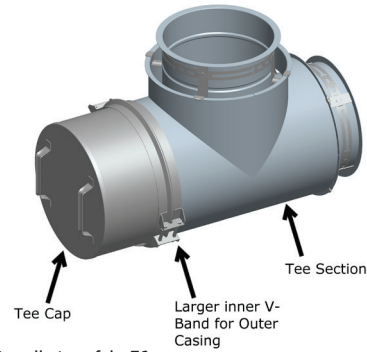

Figure 22: Step 3-4 for installation of the TC
Step 4 - Secure with the bigger V-Band (BSI) by tightening the retaining screw. See Figure 22.